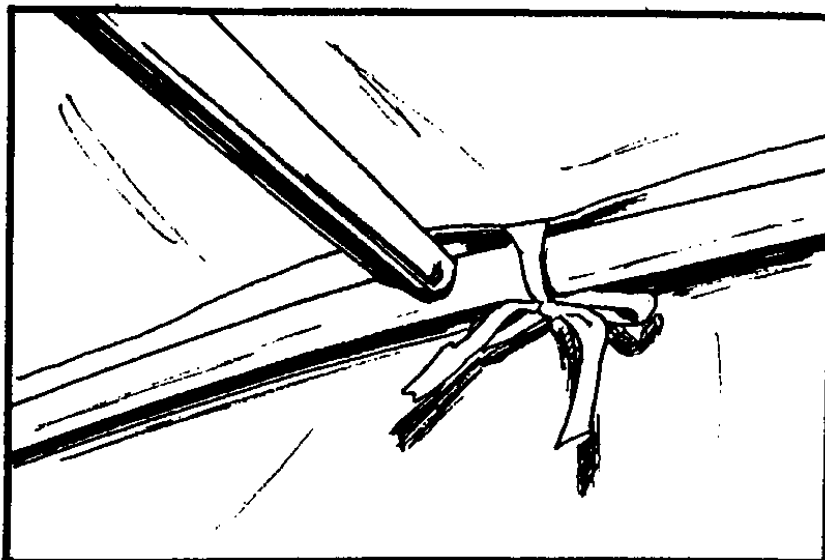

Figure 12
17. To complete set-up and support the tent enclosure, place one end of the support rod assembled in Step 11 into the hole located in the center of the uppermost canvas bow and the other end in the hole located in the center of the rear bow located directly above the entrance way. See Figure 12. Adjust support rod as necessary to make the tent enclosure taut. This is done by pressing the release button on the pole and extending the rod to the next hole location.